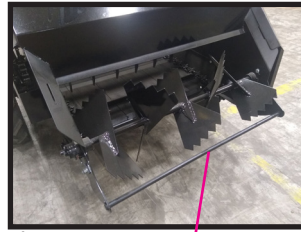

Fig 1.
1. Remove both cotter pins using a pair of pliers from the safety bar at the rear of the spreader and remove the safety bar (**Fig 1 - Fig 3**).